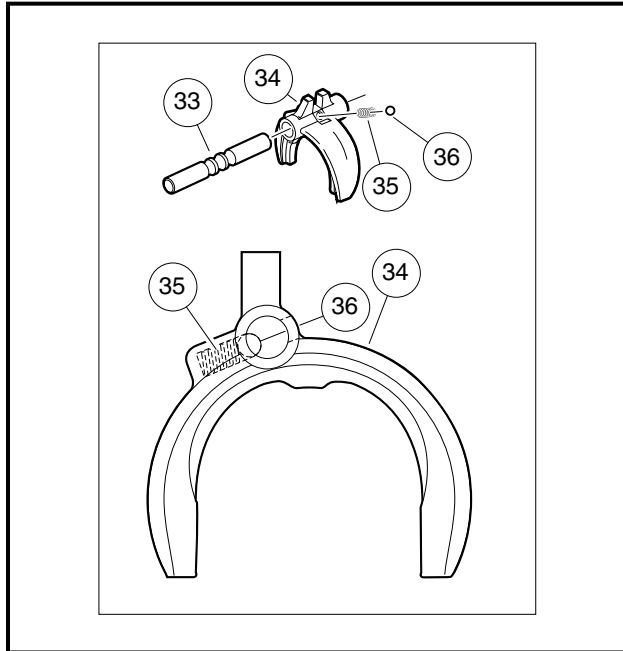

Figure 6-32 Align Spring and Ball and Insert
1. Install the spring (35) and ball (36) into the shifter fork (34) (**Figure 6-32, Page 6-17**).